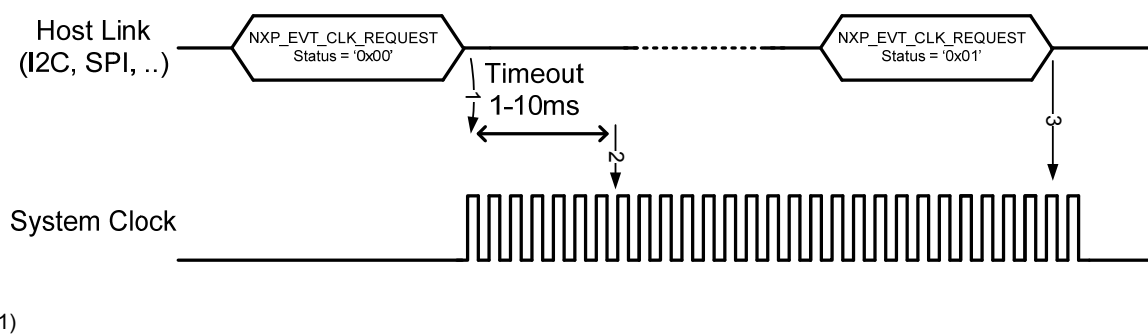

Fig 35. Clock request with HCI Event, acknowledge with Timeout
Step1: PN544 request the clock from the system (for clock request, see previous chapter: ‘Clock Request & Release’, Fig 33 & Fig 35).